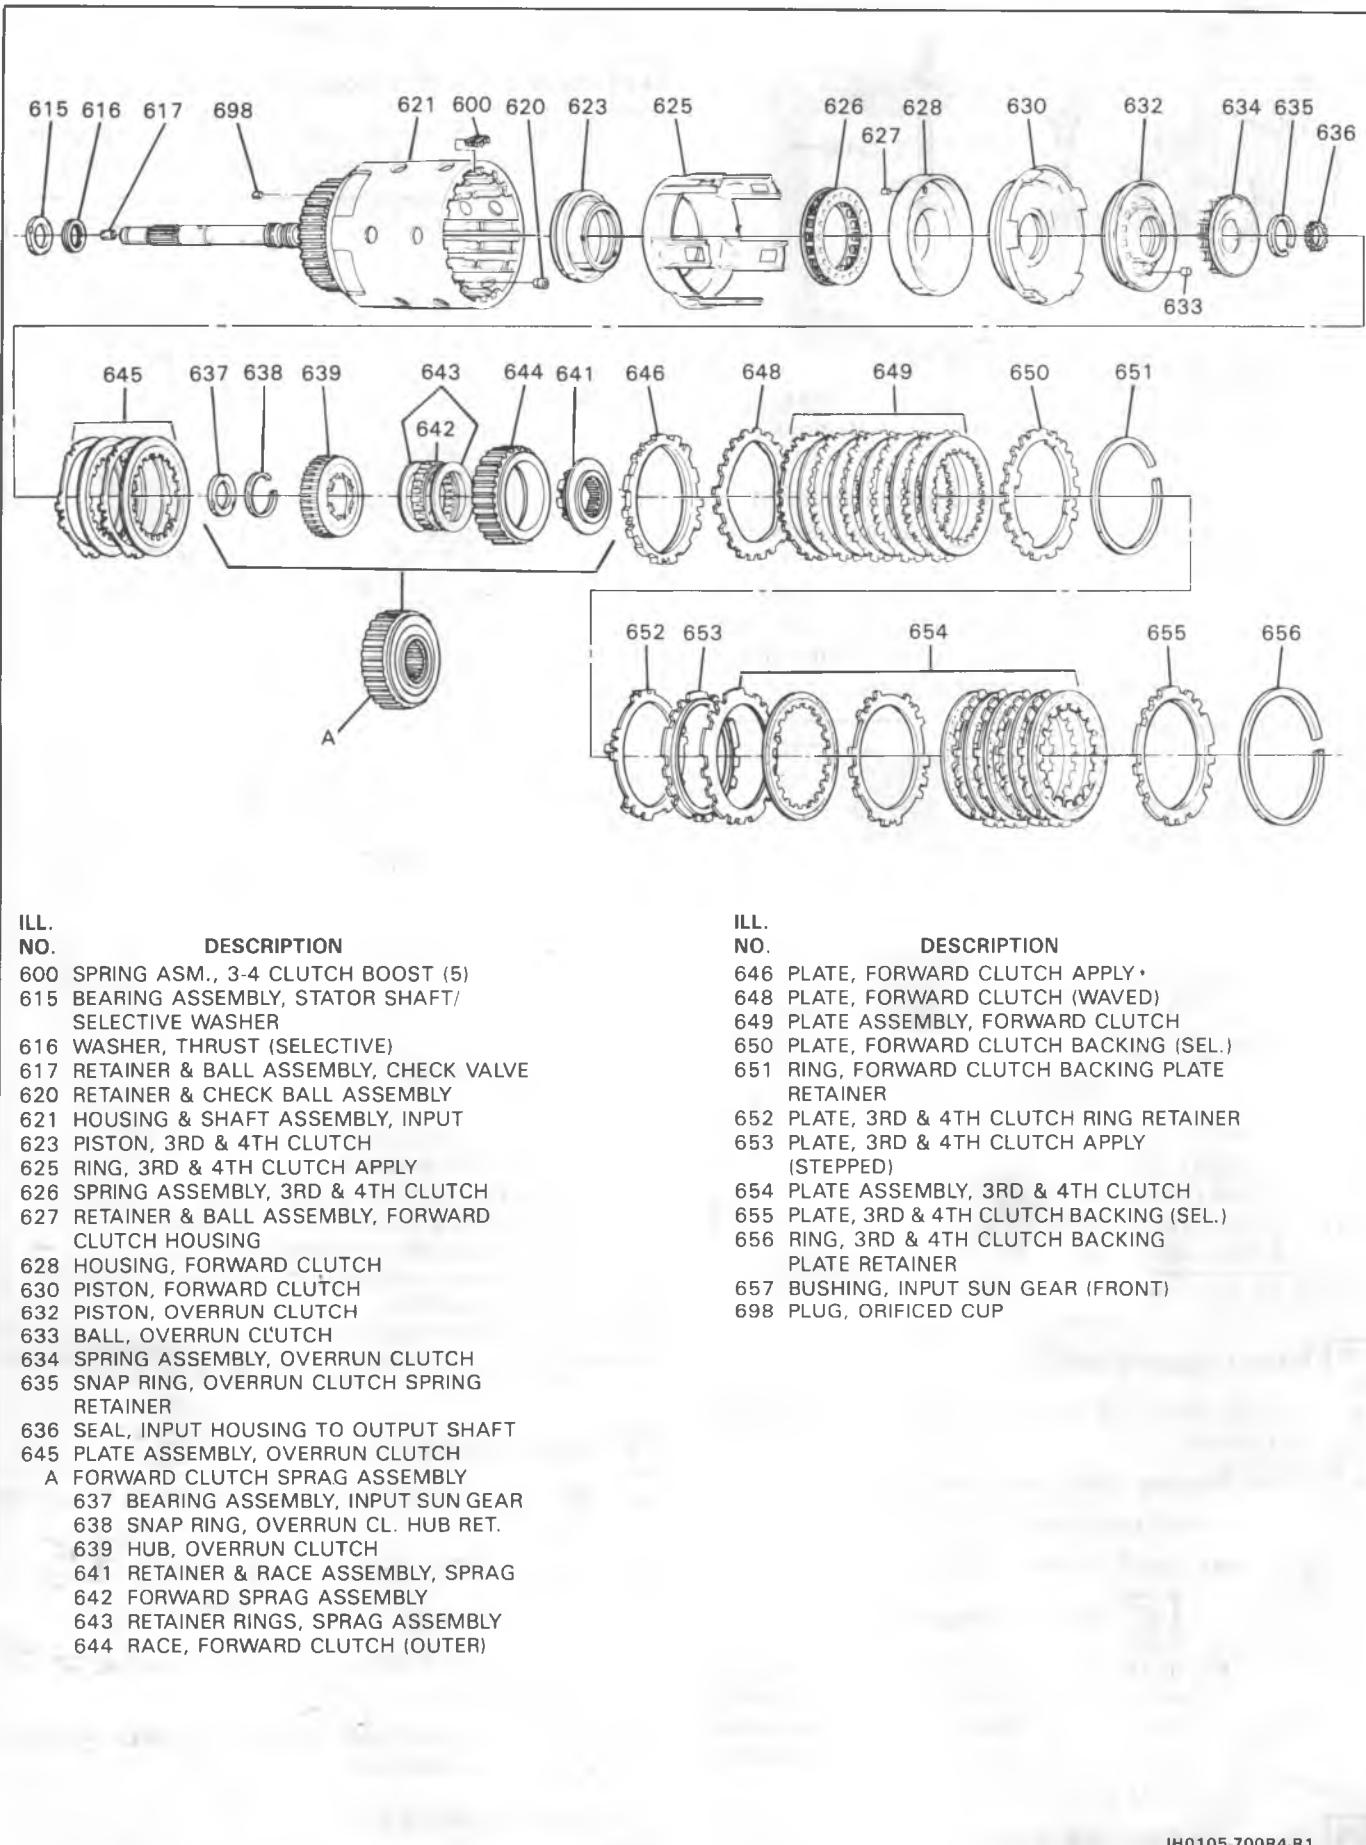

Figure 57 Input Clutch Assembly
**Disassemble (Figures 57 and 58)****TOOLS REQUIRED:**
Inspect (Figure 57)
**Inspect (Figures 57, 63, 65)**
- Forward clutch housing (628) for
- Forward clutch piston (630) and overrun clutch piston (632) for
- Overrun spring assembly (634) for damage or distortion